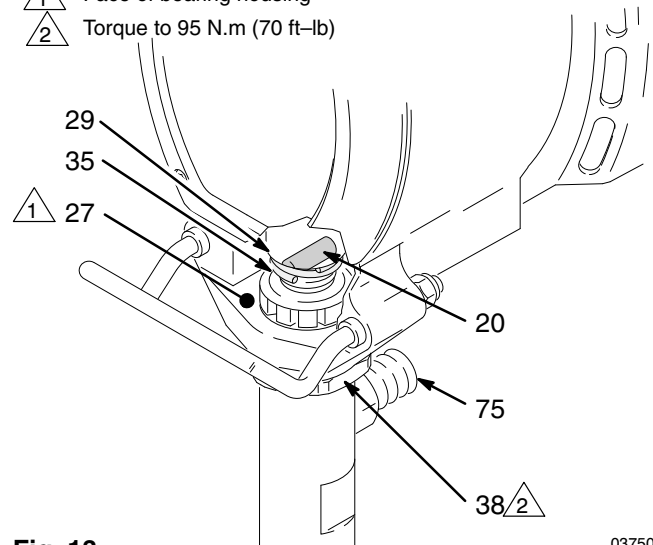

Fig. 13
9. Test brushes. Remove connecting rod pin (20). See Fig. 13, page 15. With sprayer off, turn pressure control knob fully counterclockwise to minimum pressure. Plug in sprayer. Turn sprayer on. Slowly increase pressure until motor is at full speed. Inspect brush and commutator contact area for excessive arcing. Arcs should not “trail” or circle around commutator surface.